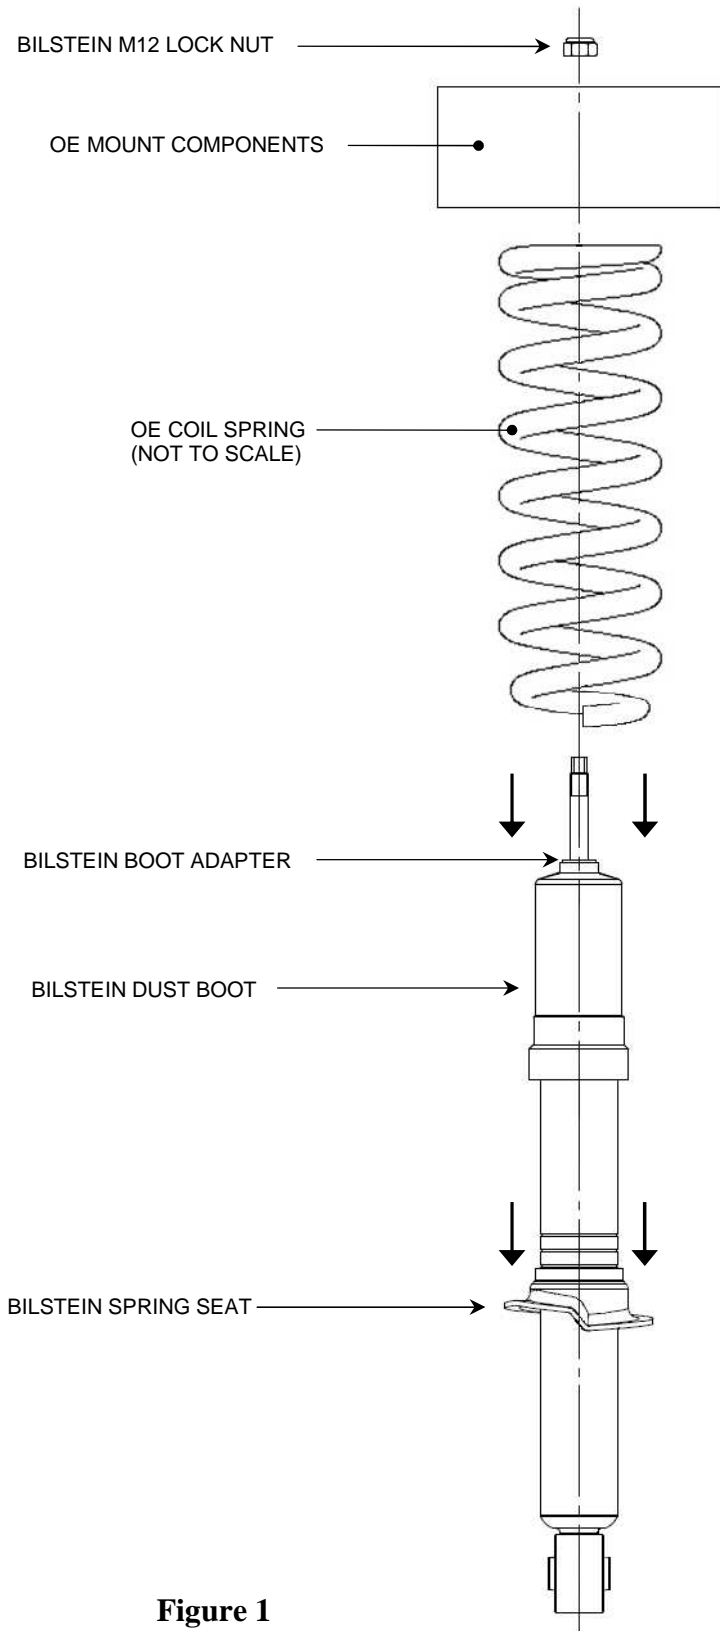

Figure 1
1. Install the spring seat onto the shock body as shown. Ensure that the groove inside the spring seat fits over the circlip on the shock body (see page 1 detail (A)). The dust boot and boot adapter will need to be removed to slide the spring seat on.
2. Re-install the dust boot and boot adapter onto the stem of the rod as shown. The boot adapter is clipped into the top of the dust boot. Install OE coil spring and re-install all original mount parts in reverse order of removal in accordance with the vehicle manufacturer's Service Manual. Please refer to Figure 1 for the proper order of installation of the module components.